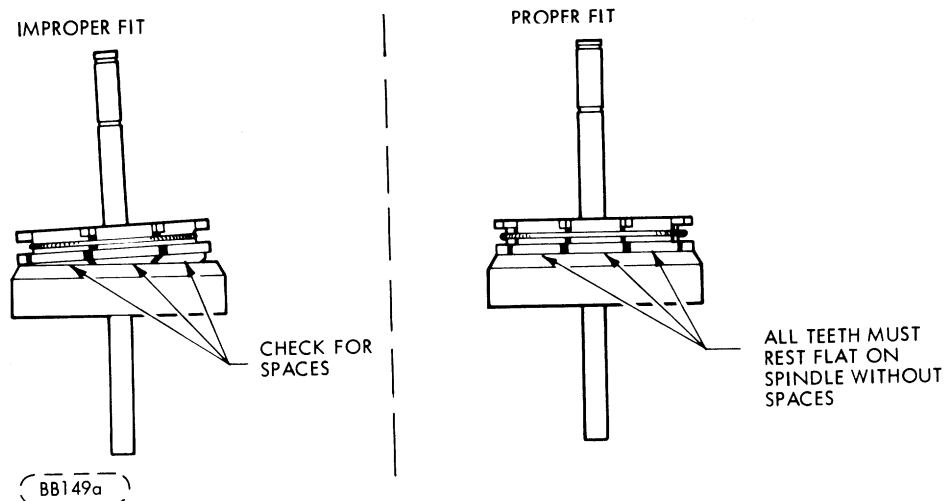

FIGURE 6-11. SPINDLE AND CONE
- b. Position chassis assembly by pushing down on the spindle cone shaft so cone seats in the spindle (Figure 6-11).
- c. Slowly close door without spindle turning. Spindle top surface and cone spindle contact surface must meet at the same time on the full circumference of the spindle (see Figure 6-11).